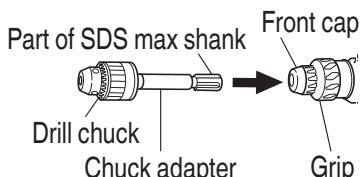

Fig. 12
- (2) Attaching chuck adapter to drill chuck (Fig. 12)